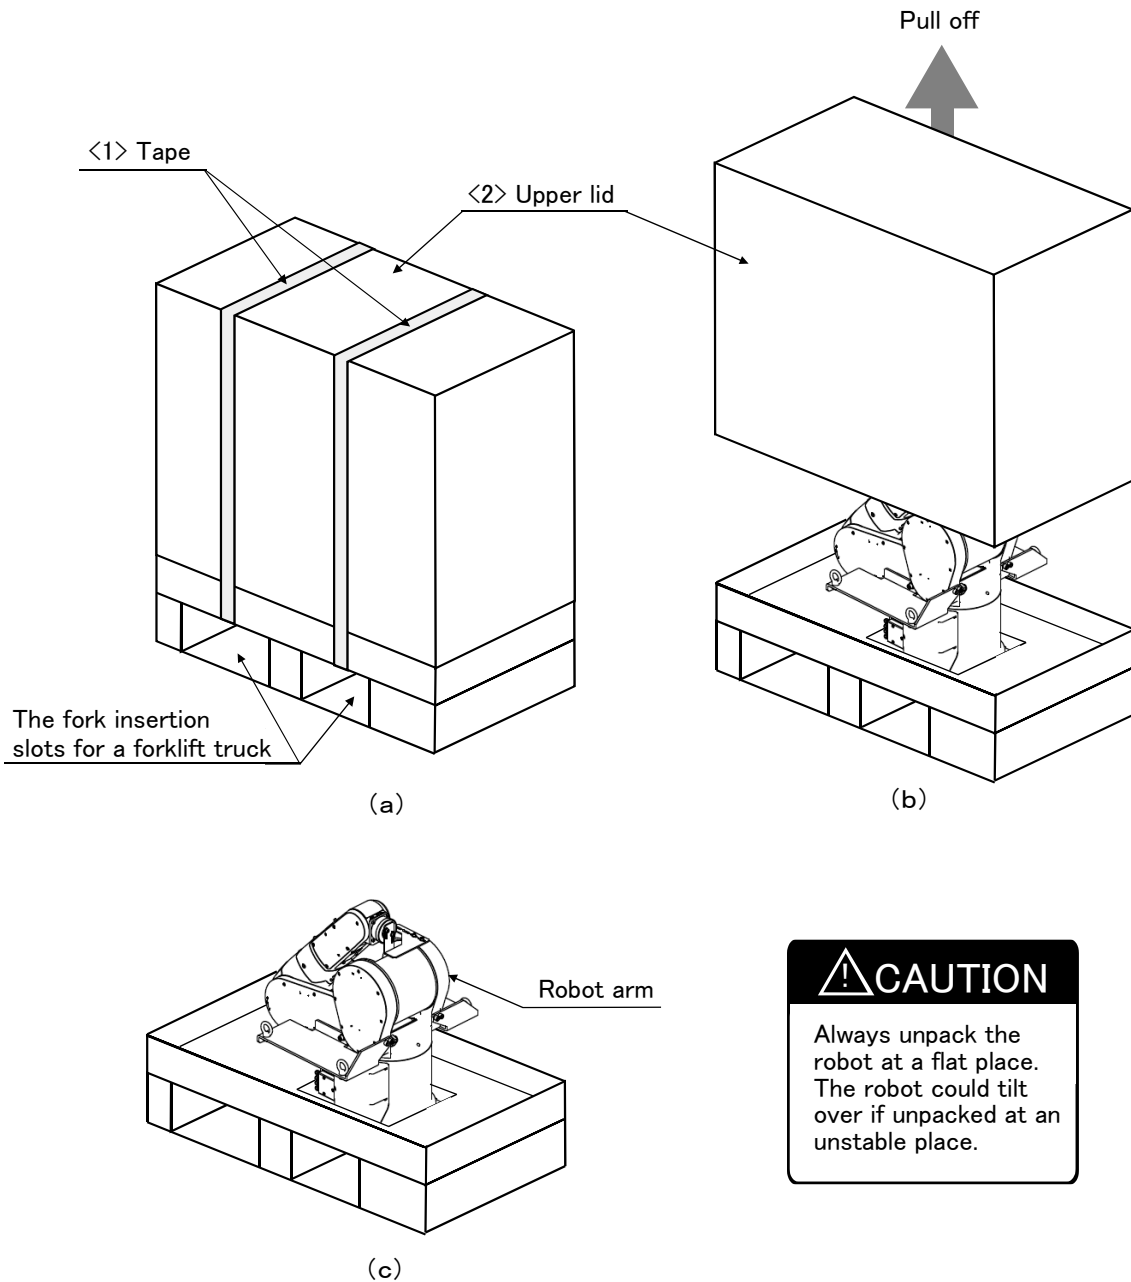

Fig.2-1 : Unpacking the robot arm
The robot is shipped from the factory in cardboard and plywood packing. Always refer to Fig. 2-1 and unpack the robot.
- 1) Using a knife, etc., slit the tape <1> fixing the upper lid <2> of the cardboard box. (Fig. 2-1 (a))
- 2) Pull the upper lid <2> of the cardboard box off with both hands. (Fig. 2-1 (b))
- 3) Remove the hexagon socket bolts <3> (four positions) connecting the sleeper and the base unit. (Fig. 2-1 (c))